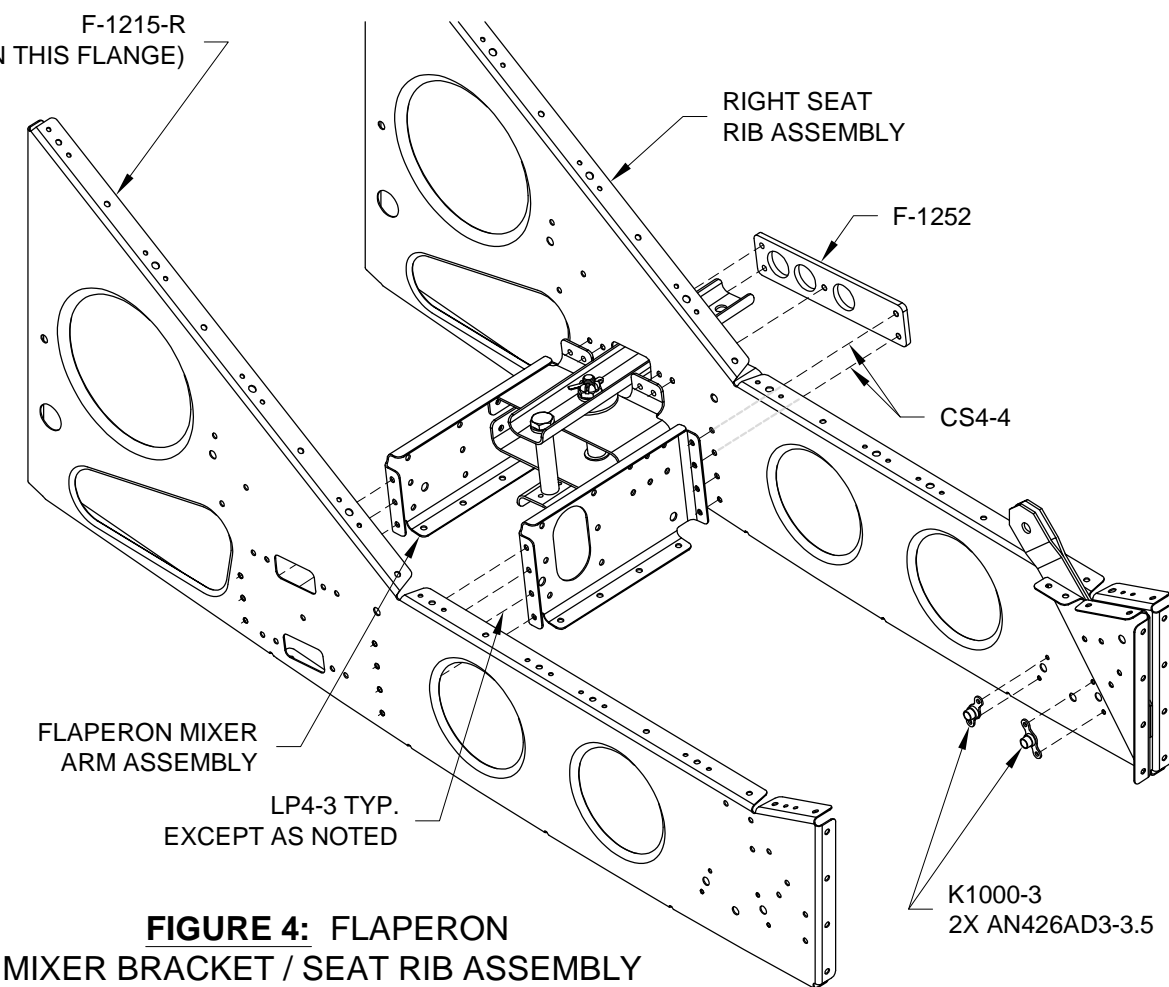

FIGURE 4: FLAPERON MIXER BRACKET / SEAT RIB ASSEMBLY
Step 11: Dimple the nutplates shown in Figure 4 and the corresponding holes in the Right Seat Rib Assembly (the right seat rib assembly from Figure 1), then rivet the nutplates in place using the rivets called out.
Step 12: Rivet the remaining F-1252 Flaperon Stop and the Flaperon Mixer Arm Assembly to the Right Seat Rib Assembly using the rivets called out in Figure 4.
Step 13: Rivet the F-1215-R Seat Rib that has the nutplates installed from Step 5, to the Flaperon Mixer Arm Assembly as shown in Figure 4.